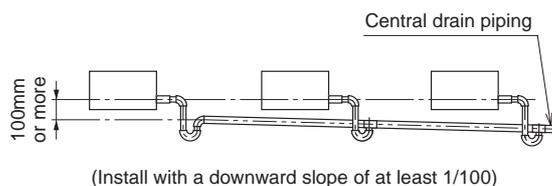

Fig. 7-2
- Keep the drain pipe short and sloping downwards at a gradient of at least 1/100 to prevent air pockets from forming. (Refer to Fig. 7-2)
- If you are using central drain piping, follow the procedure outlined in the figure 7-2.
(2) After piping work is finished, check drainage flows smoothly.